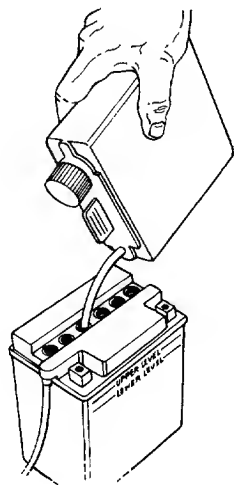

FIGURE 13.
5. Fill each battery cell slowly and carefully to the UPPER LEVEL line marked on battery. See figure 13. Use caution as the acid level will rise rapidly after the bottom of the cell is filled.